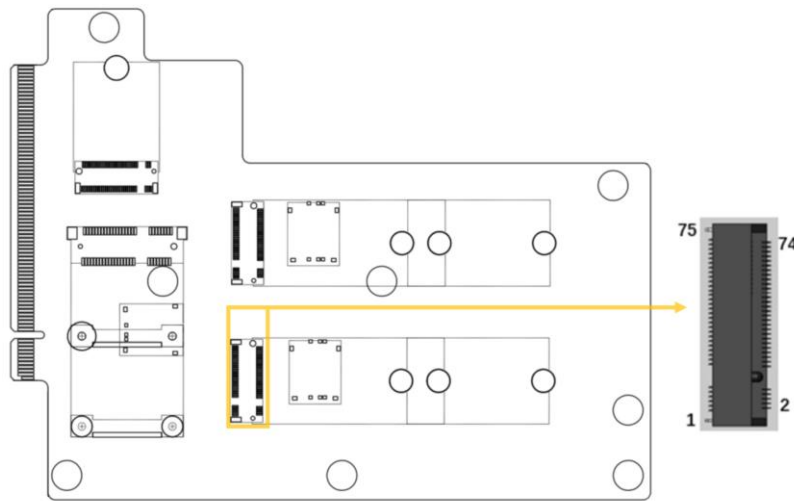

Figure 4-4: M.2 B-key Slot Location
- CN Location:** See **Figure 4-4**